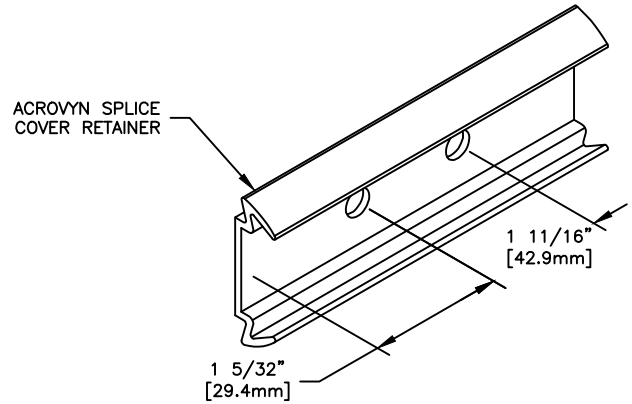

FIGURE 2.
3. DRILL TWO 9/32" PILOT HOLES THROUGH THE ACROVYN SPLICE COVER RETAINER, 1-5/32" [29.4mm] FROM THE END AND 1-11/16" [42.9mm] O.C. ALONG THE DIE MARK (SEE FIGURE 2). THE 3-3/16" CRASH RAIL RETAINER CLIP MAY ALSO BE USED AS A TEMPLATE.